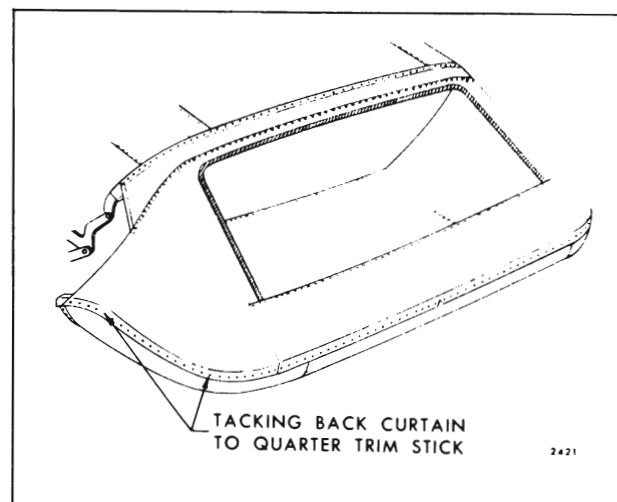

Fig. 13-54 — Back Curtain Installation
6. Tack remainder of back curtain material to rear quarter trim stick (Fig. 13-54).